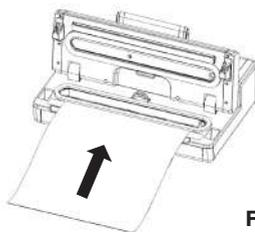

Fig.6
- Place the open end of the bag within the vacuum chamber area. Approximately 1/2 ways into the chamber (fig. 6).